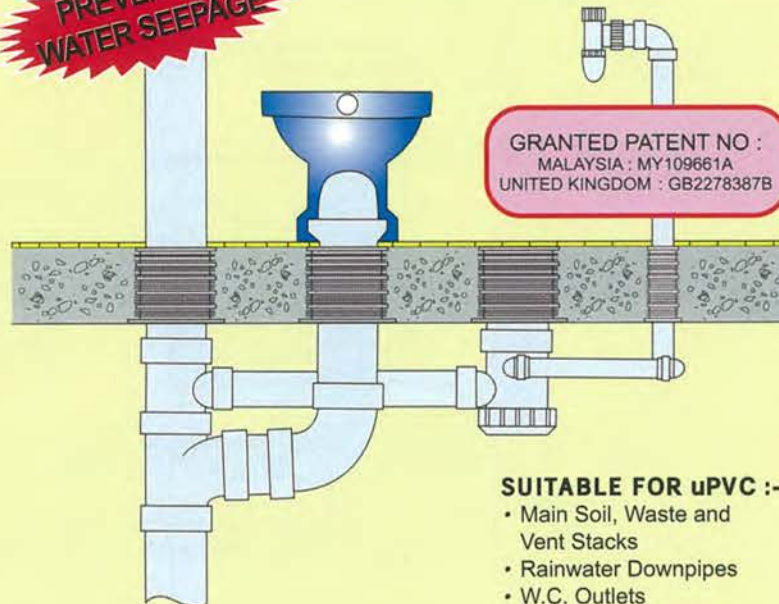

Fig. 9
- Easy and quick installation by two fastening methods on the formwork before the concrete is cast into the floor slab (see Fig. 9).